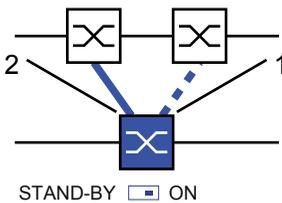

Figure 21: One-Switch-coupling
- Select "One-Switch coupling" by means of the dialog button with the same graphic as below (see figure 21).